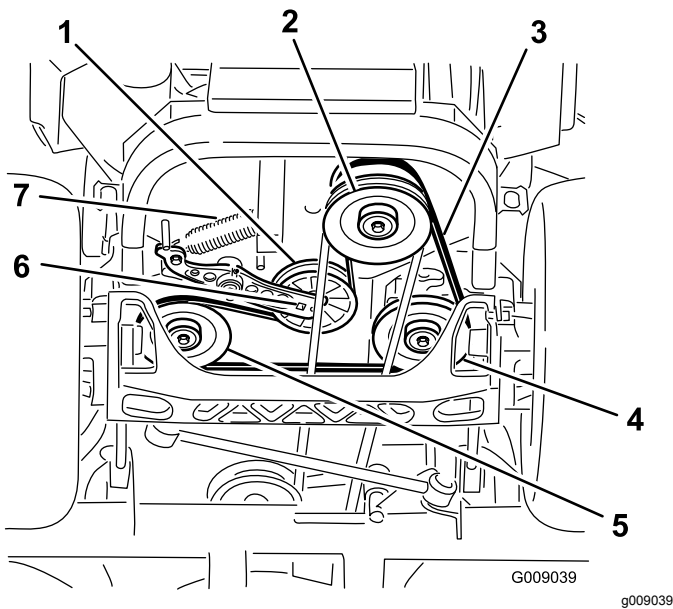

Figure 90
4. Raise the machine and support it with jack stands (Figure 90).
5. Use a ratchet in the square hole in the idler arm to remove the idler spring (Figure 90).
6. Unhook the idler spring from the frame (Figure 90).
9. Using a ratchet in the square hole in the idler arm, install the idler spring to the frame (Figure 90).